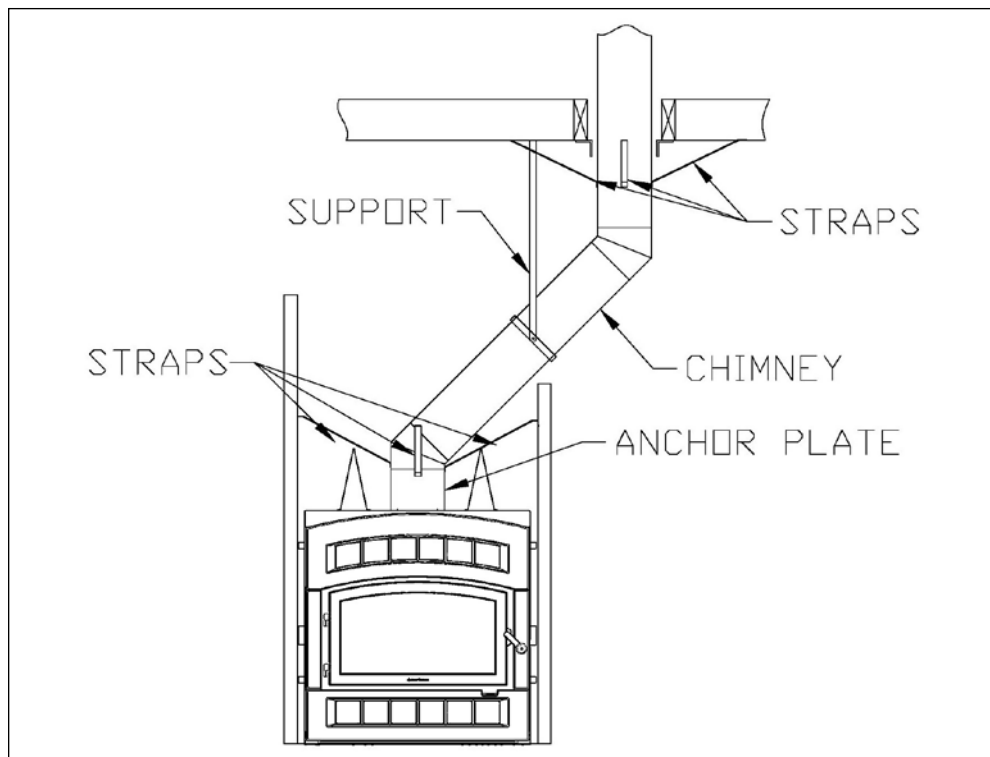

Figure 46
1. Install the first elbow; turn it in the required direction. Secure it to the chimney according to the chimney manufacturer's instructions. In many cases, it is recommended to secure connections with three (3) ½" (12 mm) metal screws.
2. Install the necessary chimney lengths to achieve the required offset. Lock the chimney lengths together according to the chimney manufacturer's instructions. In many cases, it is recommended to use three (3) ½" (12 mm) screws. If the offset length is made of two (2) chimney lengths or more, many chimney manufacturers may require that you use an offset or roof support halfway up the offset. If penetrating a wall, install a wall radiation shield supplied by the chimney manufacturer (see figures 46 & 47).